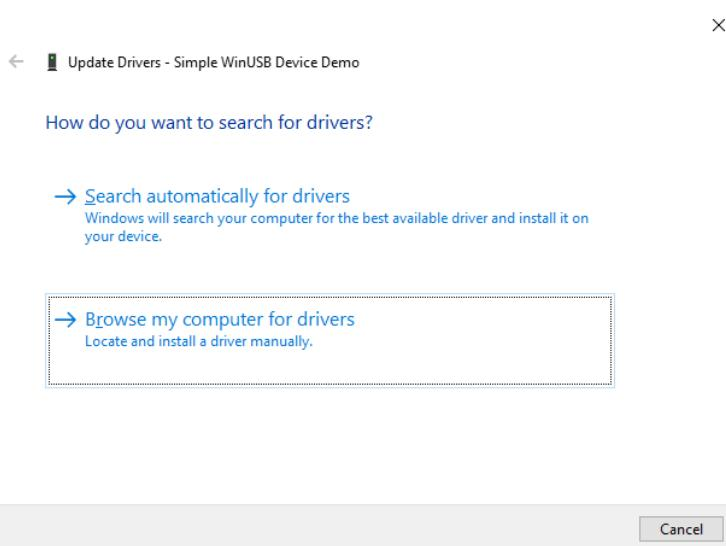

Fig. 11.10: "Update Drivers" window.
4. Select "Browse my computer for drivers" (see **Fig. 11.10**).